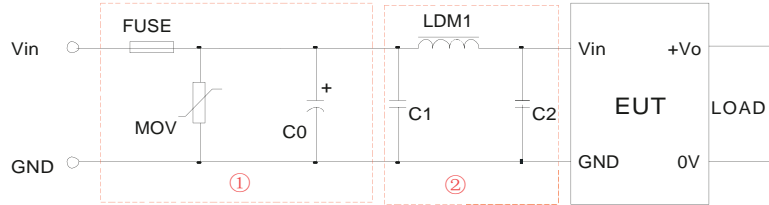

Fig. 3
RE	CISPR22/EN55022 CLASS B/CLASS B (see Fig.3 for recommended circuit)
Note: ①.Part ① in the Fig. 3 is used for EMS test and part ② for EMI filtering; selected based on needs.
②.If there is no recommended parameters, the model no require the external component.